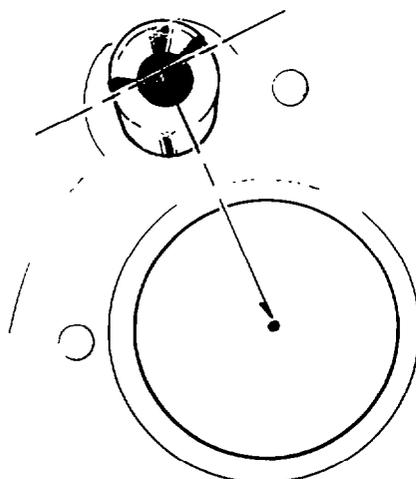

Fig. 190 — Aligning Reverse Idler Shaft
- c. Start the reverse idler shafts into the case. Position the shafts so that the centreline of the flats on the end of the shafts are pointing towards the centreline of the countershaft bores (see fig. 190).